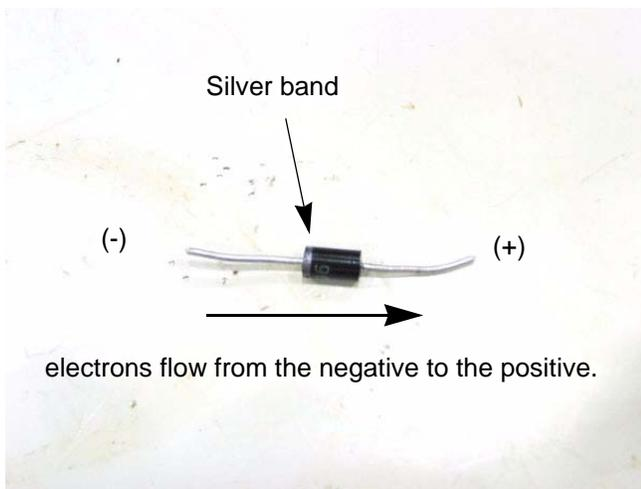

Figure 7.66
- What is a diode? A diode acts like a one way valve, allowing current to flow in only one direction. See Figure 7.66.